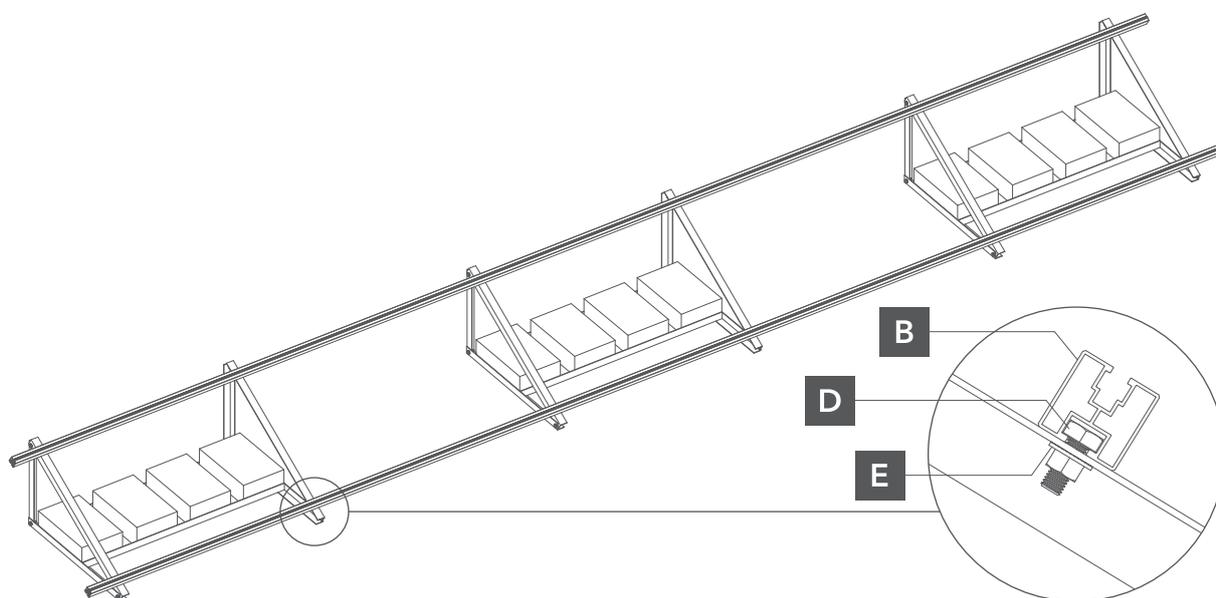

Fig. 5. fastening of the rail to the mounting triangle
- 4** Next, if the mounting triangulates are already fixed, you need to pass one end of the rail with a DIN933 M10x25 hexagonal bolt, align it with the align it with the mounting triangulate and tighten it with a DIN6923 M10 nut (Fig. 5).